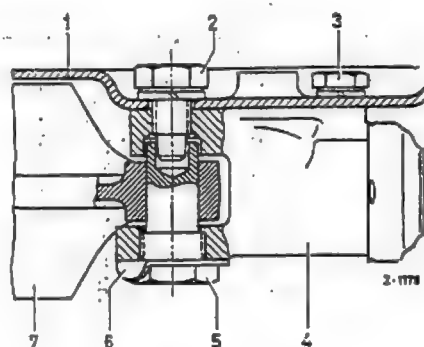

Fig. 42-8/3
5. Bend the locking plate (6) upward and screw out the anchor pin (5) from the eye of the brake wheel cylinder (4) (Fig. 42-8/3 and 42-8/4).